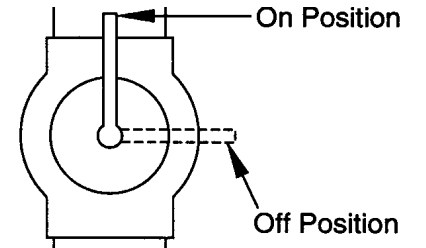

Figure 18 - Equipment Shutoff Valve
- 4. Turn equipment shutoff valve clockwise to OFF position (see Figure 18).
- 5. Wait five (5) minutes to clear out any gas. Then smell for gas, including near the floor. If you smell gas, STOP! Follow "B" in the safety information, column 1. If you don't smell gas, go to next step.
- 6. Turn equipment shutoff valve counterclockwise to ON position (See Figure 18).